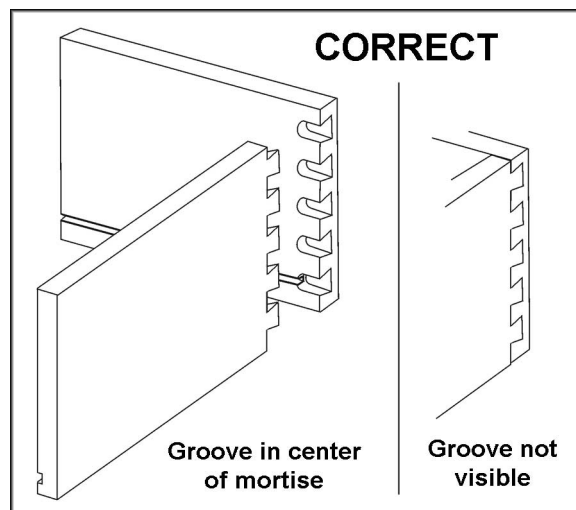

Figure 19
3. Turn the spindle height adjust screw (Figure 19) with a 5.5mm hex wrench, either clockwise to raise the cutter (decrease the cutter depth), or counterclockwise to lower the cutter (increase the cutter depth).
The mortise depth adjust bolt, shown in Figure 19, limits how far forward the cutting unit will go, and thus limits the length of your mortise cut.